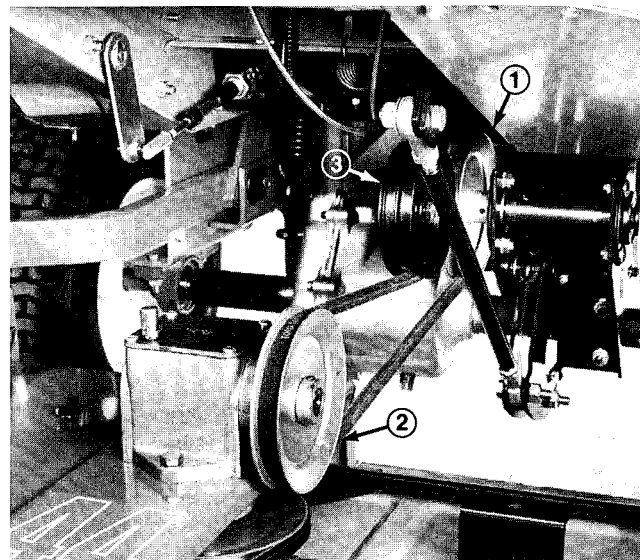

Figure 4
3. Raise idler pulley and position over upper portion of belt (Fig. 4).